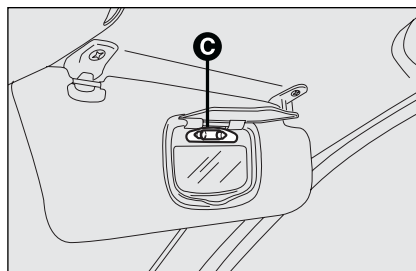

fig. 50
- ☐ replace the bulb **C**-fig. 50 releasing it from the side contacts making sure that the new bulb is correctly clamped between the contacts.